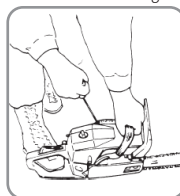

Fig. 10
- 4. While holding the saw unit securely on the ground, pull the starter rope vigorously (Fig. 10).